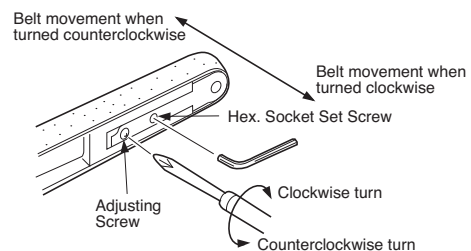

Fig. 6
**4-4. Adjusting the Tracking (Fig. 6)**